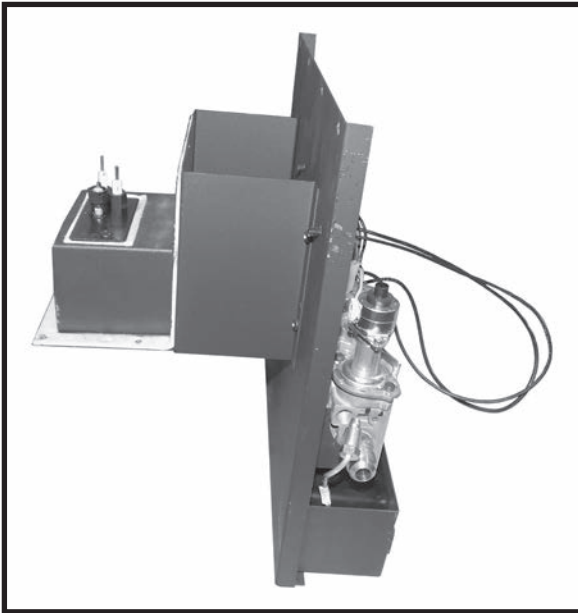

Figure 66: Control panel extracted from the unit.
17. The control panel (Figure 66) can now be extracted from the rear of the heater and serviced on a table top.